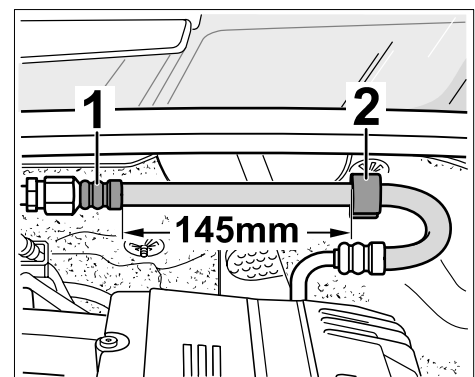

Figure 6
4.9.1 Use a white water-resistant pen to mark the fuel line **145 mm** from the press-on sleeve ⇒ *Figure 6 -1-* (⇒ *Figure 6*).
4.9.2 Align the spacer ring ⇒ *Figure 6 -2-* with the marking you made on the fuel line in Step 4.9.1 so that the lock on the spacer ring is facing downwards.